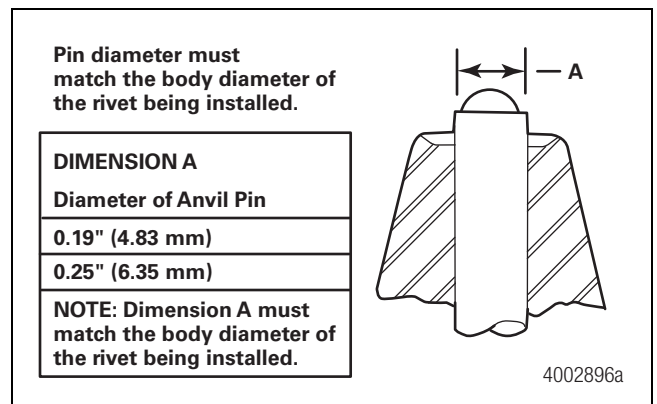

Figure 8.6
3. Use a micrometer to measure the diameter, Dimension A, of the anvil pin. Figure 8.6. Record the dimension.